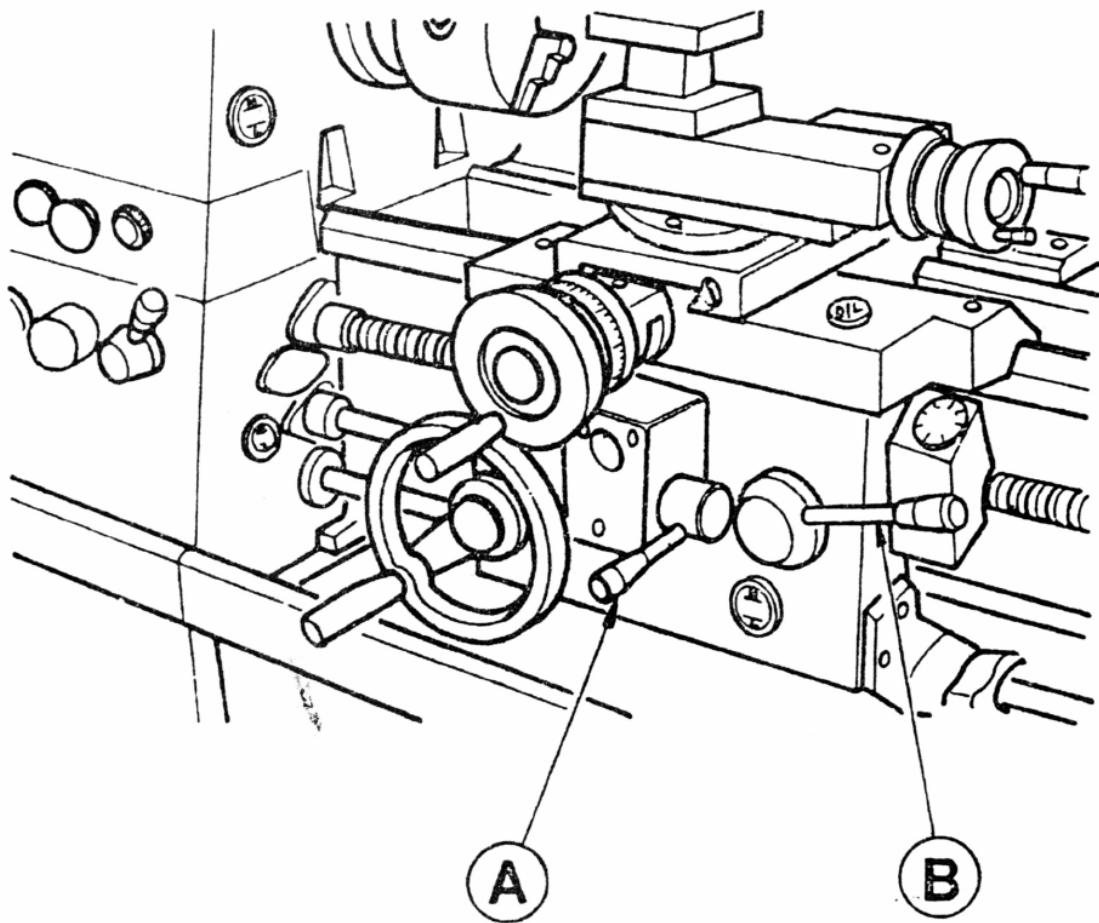

**Fig.15**
In addition to handwheel traverse, the carriage can be power-operated through controls on the front of the apron see Fig.15 knob (A) is pulled out for power feed engagement and pushed in for manual operation.